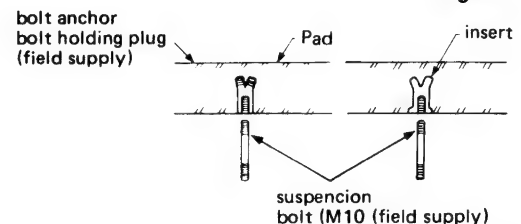

Fig. 7A
b) In the holes for the bolts, insert securely bolt anchors (or bolt holding plugs). Then securely screw the bolts into the anchors, as shown in the illustration at right. Fig. 7A